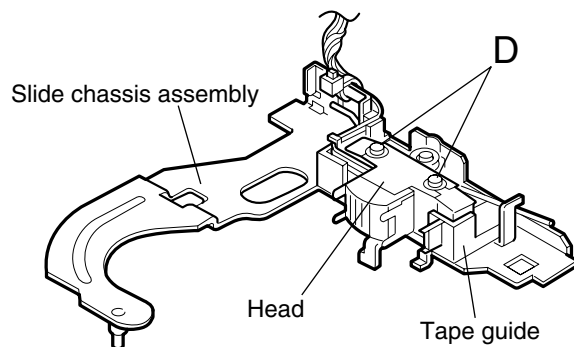

Fig.18
■ Removing the head / tape guide (See Fig.18 and 19)
CAUTION: When reattaching the head, set the wires into the groove of the tape guide (Fig.18).